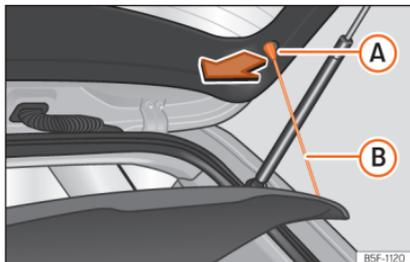

Fig. 171 In the boot: removing and installing the shelf.
- Detach the cord loops »» Fig. 171 (B) from their hooks (A).
- Hook the loops »» Fig. 171 (B) to the rear lid »» ⚠.